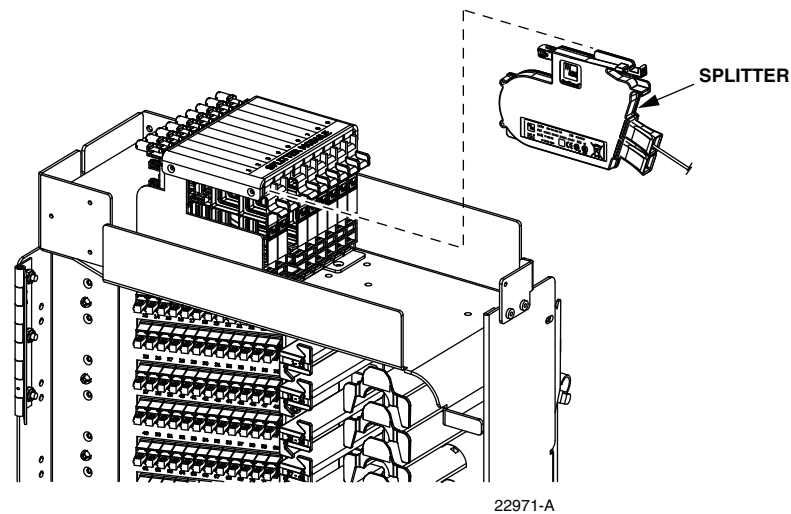

Figure 41. Splitter Installation
6. Insert the splitter into the mounting slot as shown in Figure 41.